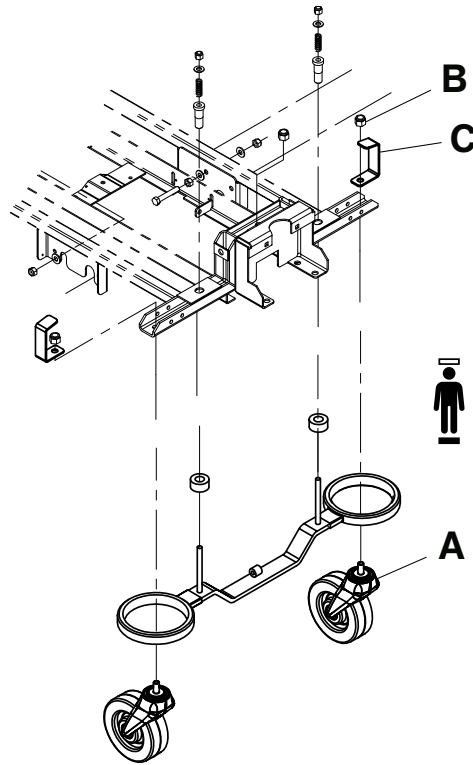

Figure 6 – Caster assembly replacement
6. Using a 5/8" combination wrench and 11/16" socket, remove the nut and bolt that secure the caster to the caster horn (A) (Figure 6). Save the nut and bolt.
7. Using a 3/4" socket and 3/4" combination wrench, remove the locknut (B), base hood support (C), caster adjusting socket, washer, and bolt that secure the caster to the base (Figure 6). Discard the caster. Save all other parts.